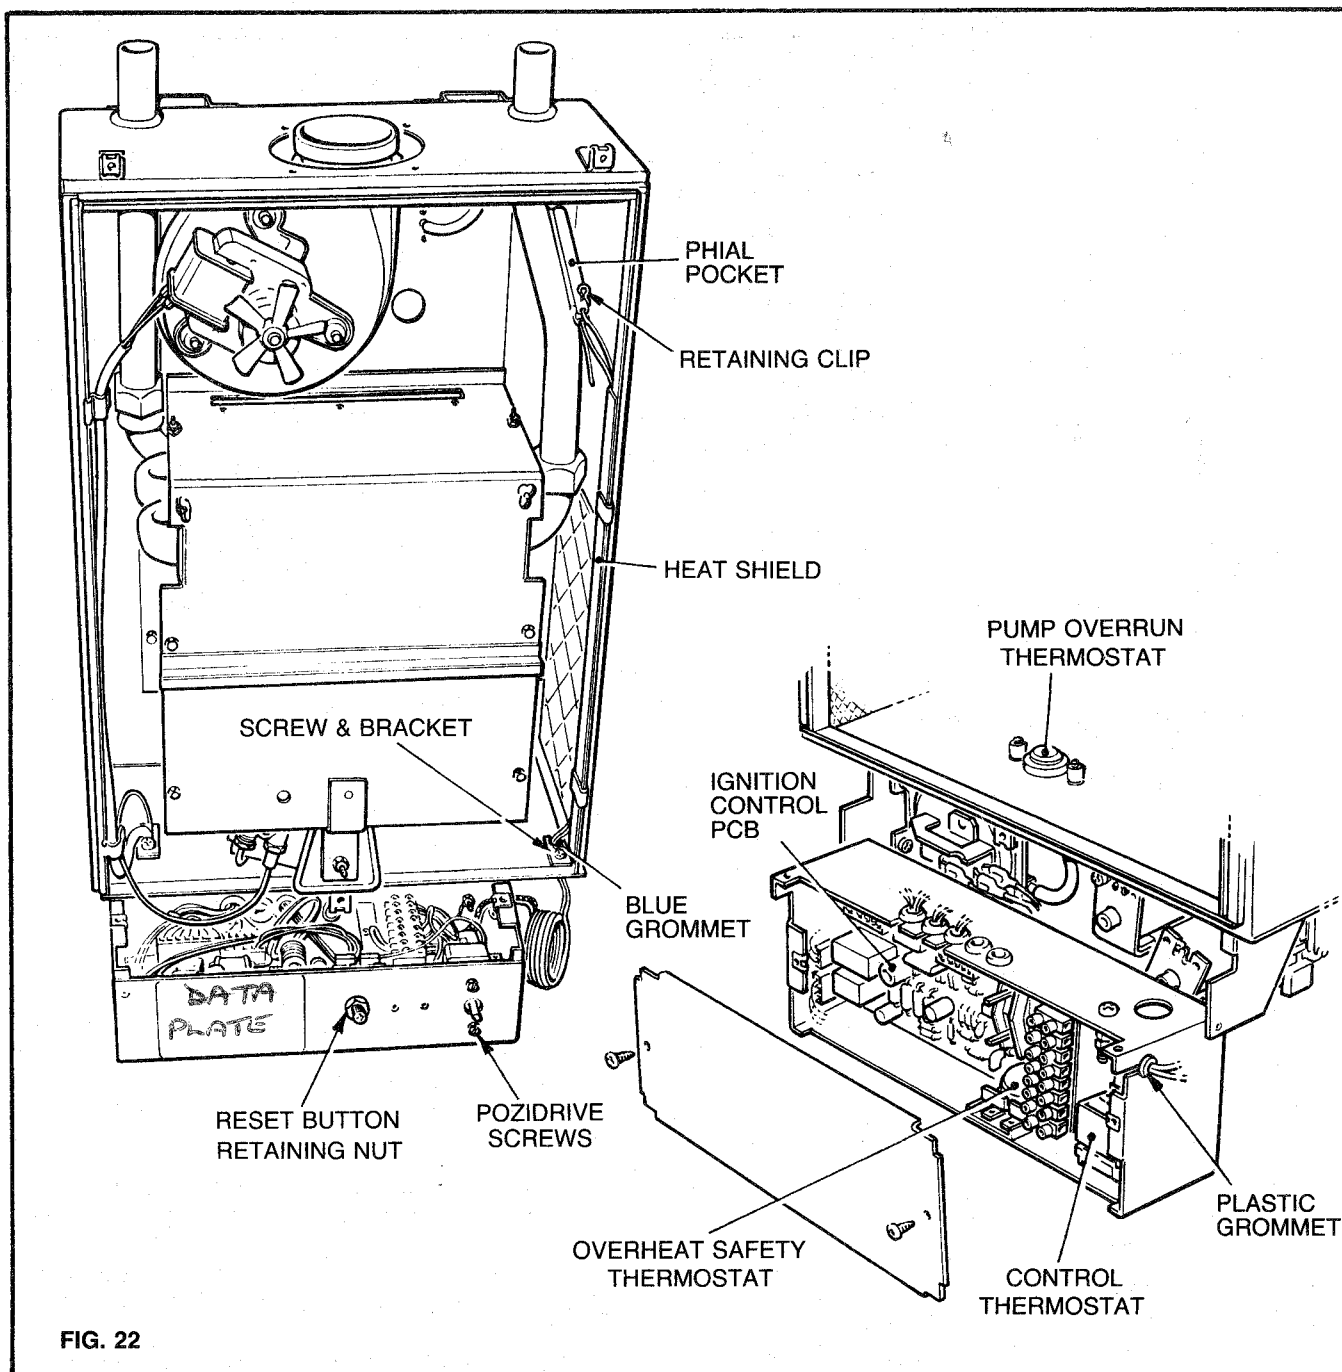

FIG. 22
8.2 TO REPLACE THE HONEYWELL IGNITION CONTROL PCB (Fig. 22)
8.3 TO REPLACE THE OVERHEAT SAFETY THERMOSTAT (Fig. 22)
8.4 TO REPLACE THE CONTROL THERMOSTAT (Fig. 22)
8.12 TO REPLACE THE PUMP OVER-RUN THERMOSTAT (Fig. 22)